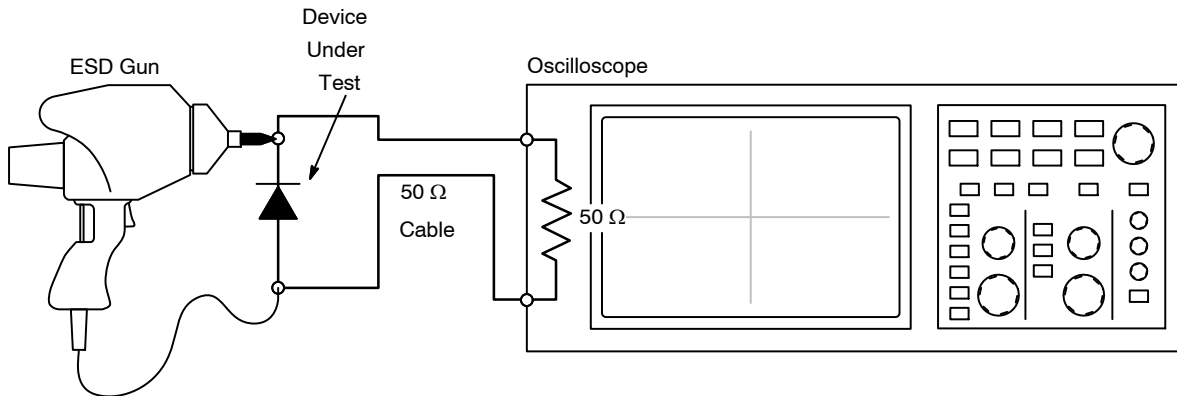

Figure 5. Diagram of ESD Clamping Voltage Test Setup
- For test procedure see Figure 5 and application note AND8307/D.